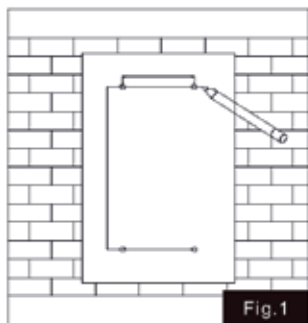

Fig.1
1. Figure out where to mount the water heater unit, mark 4 mounting holes on the wall according to the installation template(Fig.1).